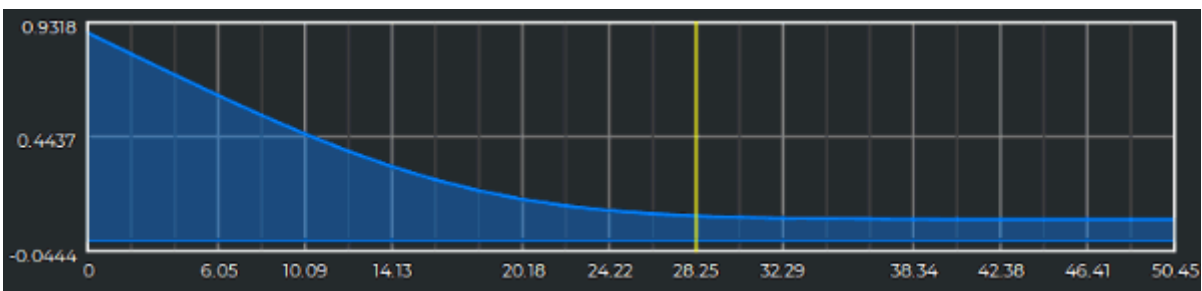

Figure 2.39: Option **Finite** is enabled
- The **Finite** option enables/disables transformations used to create response function graphs decreasing to zero over finite time after reaching the peak. The option is enabled by default. Figures 2.39 and 2.40 show response function graphs for the same ROI but different **Finite** option values.